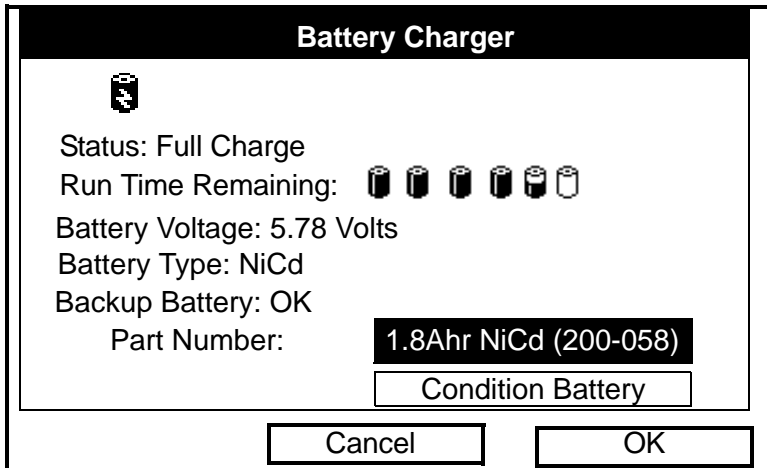

Figure 6-3: The Battery Charger Window
1. From the Meter menu, scroll to the Battery entry and press [ENTER]. The Battery Charger window opens, as shown in Figure 6-3 below.